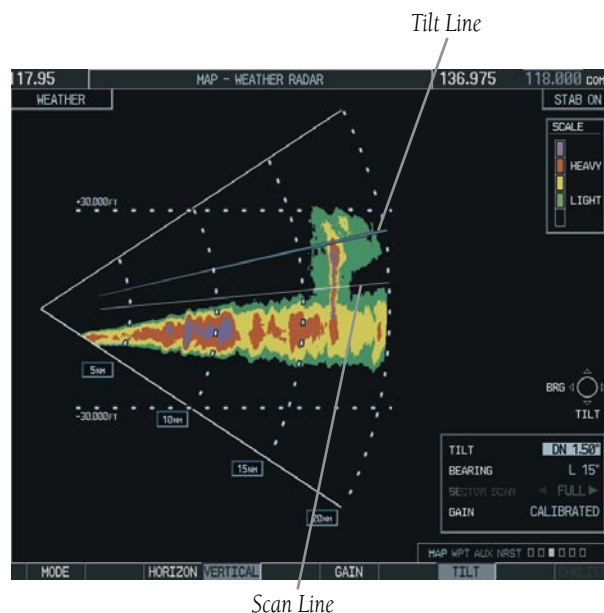

Figure 10-32 Adjusting Tilt on Vertical Scan Display
- 1) Select the **TILT** Softkey to activate the cursor in the TILT field and display the Tilt Line as seen in Figure 10-32.